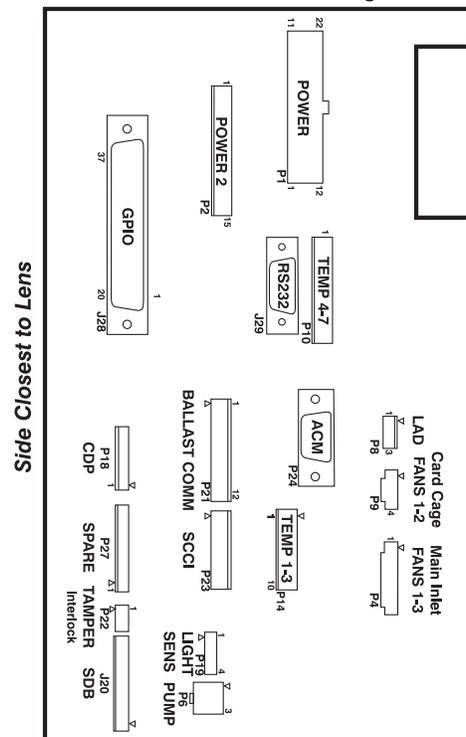

FIGURE 1-53 MOTHERBOARD CONNECTIONS
9. Remove 18, #1 Phillips screws securing the Motherboard to the card cage. (Figure 1-53)
When replacing the Motherboard, repeat instructions in reverse. Refer to the (Figure 1-53) or the Interconnections drawing, provided in this booklet when re-connecting harnesses.